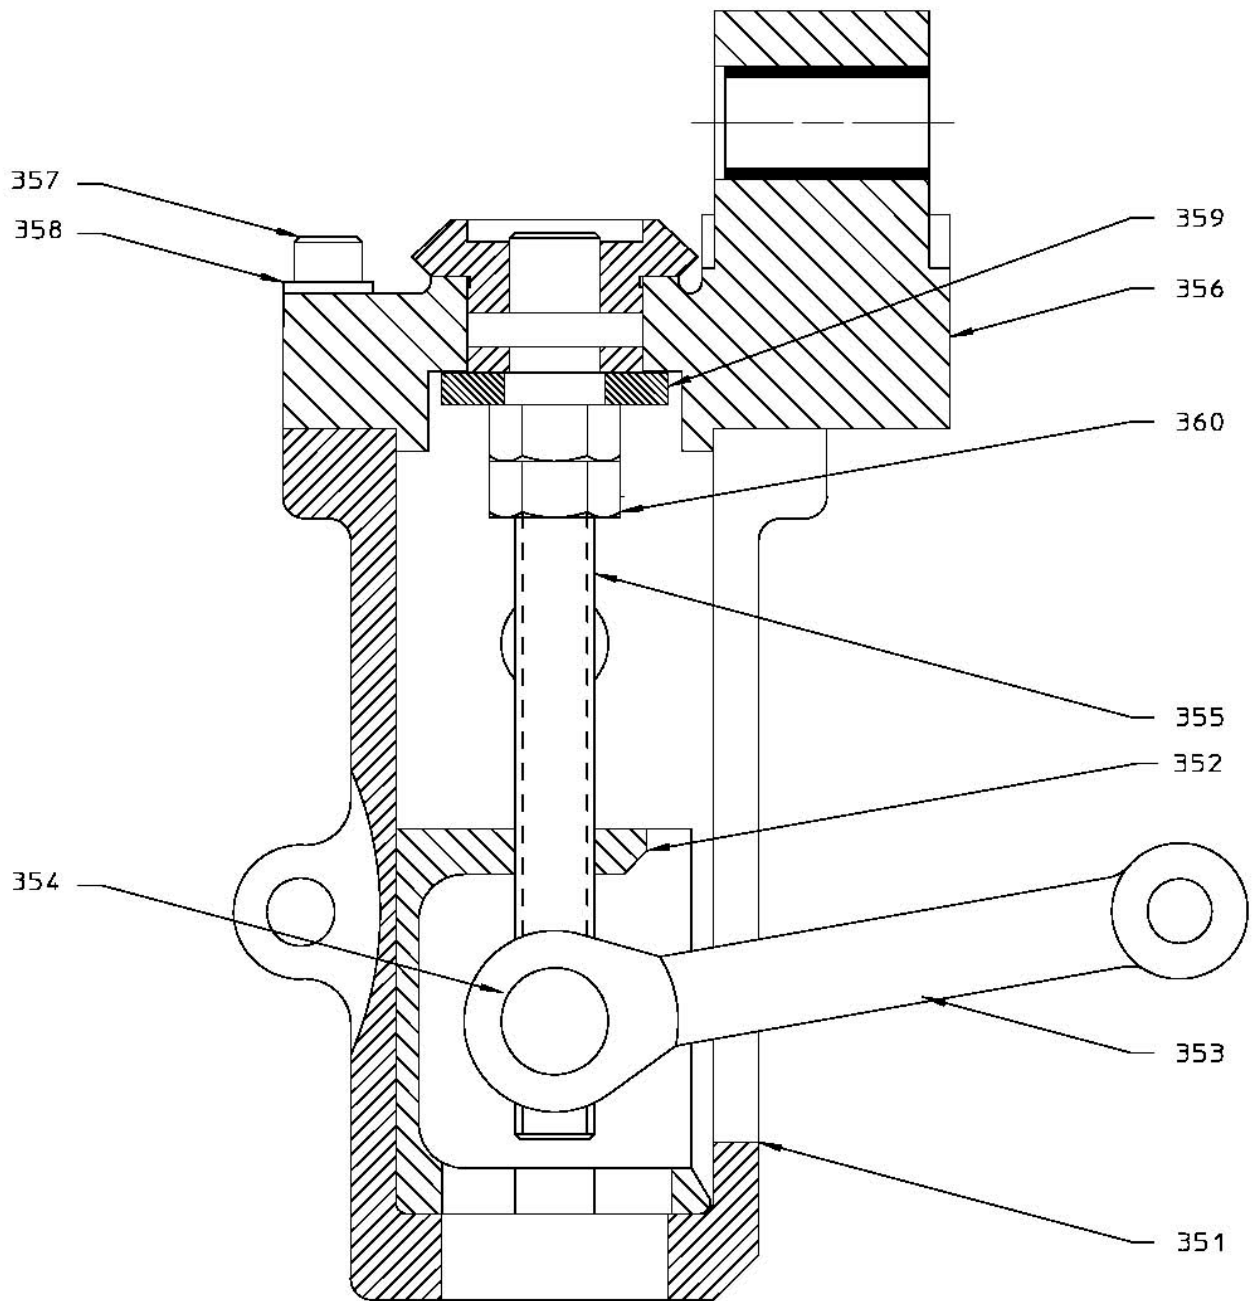

Figure 5
4. Check to see that the block, Item #352, inside the oscillating housing, Item #358 is at the top by turning the miter gear Item #357 clockwise. Refer to Figure 5.
9. With the handwheel fully clockwise, the stroke position indicator should read (000). If not, remove the handwheel assembly from the cover assembly, turn to the (000) setting and replace.
7. Check to see that the block Item #352, inside the oscillating housing, Item #358, is at the top by turning the miter gear, Item #357, clockwise. Ref to Figure 5.
13. With the handwheel fully clockwise, the stroke position indicator should read (000). If not, remove the handwheel assembly from the cover assembly, turn to the (000) setting and replace.
1. The slider block is probably jammed if the stroke cannot be freely adjusted using the handwheel with the override switch pulled out and no pressure load on the pump. To confirm the problem, remove the cover (Item #529A, Figures 8 and 9) over the oscillating housing and observe the position of the front connecting rod, Item #353, where it enters the housing, Item #351 where Figure 5 refers. If the slider block is jammed, the connecting rod will be at the extreme top or bottom position.
Numbers in parentheses refer to items as appropriate in Figures 5 through 9, except as noted.
(Reference Figure 5)